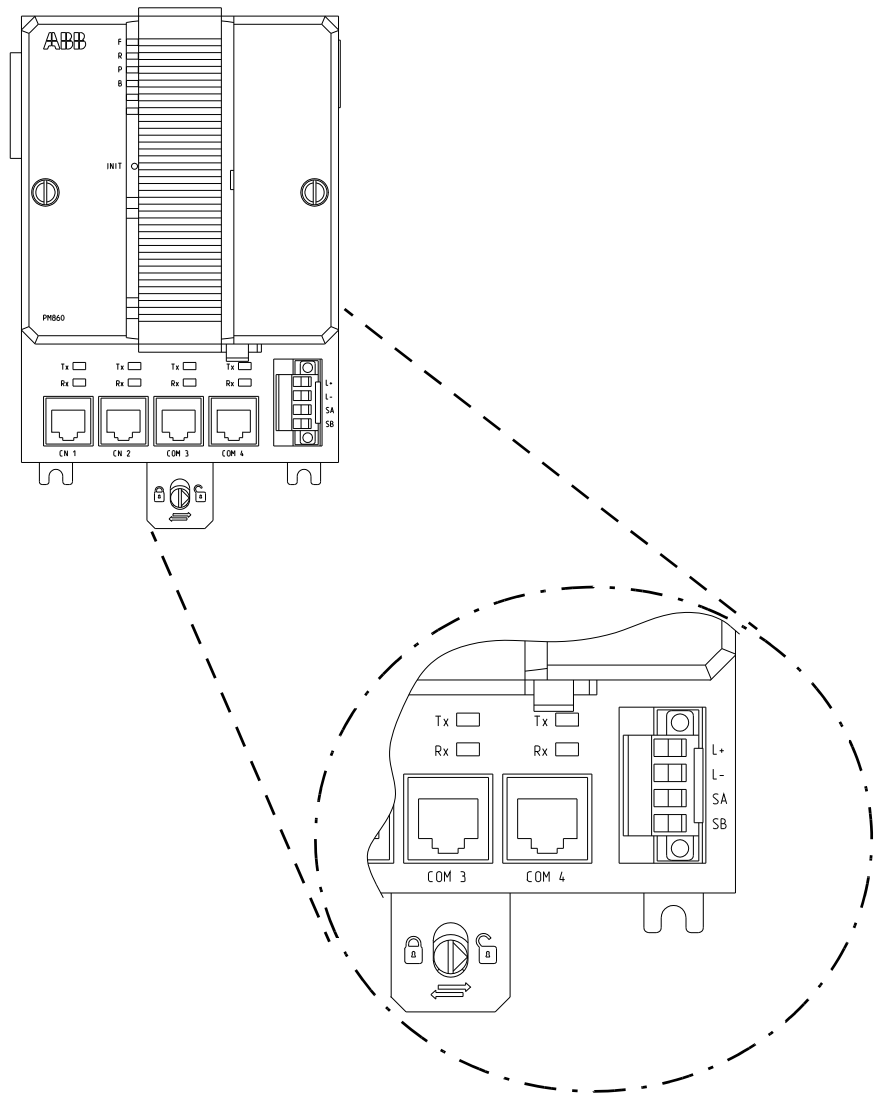

Figure 28. SA/SB Connectors for Supervision Signals
- a. Connect the power leads and, if applicable, power supervision signals from SS82x to screw terminals SA and SB (see Figure 28 on page 89).
- a. Connect the power leads to both CPUs and the power supervision signals from SS8xx to screw terminals SA and SB (see Figure 28 on page 89).